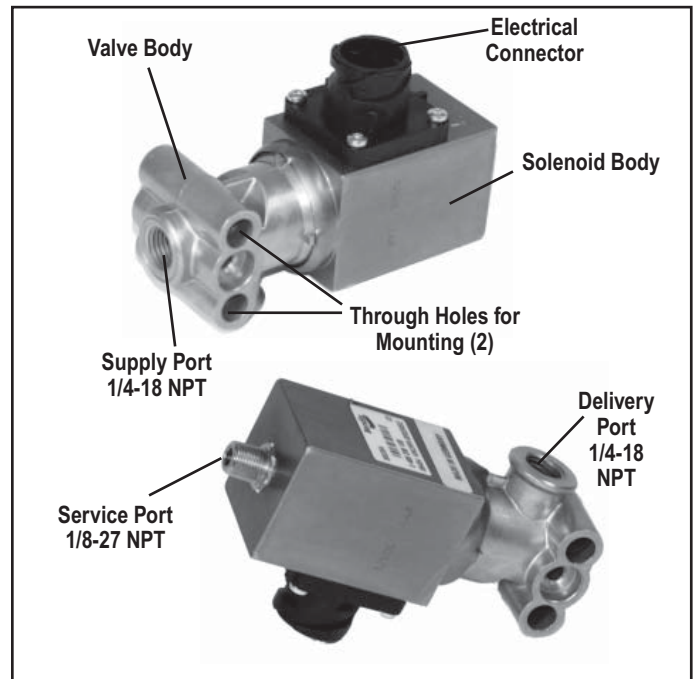

FIGURE 1 - THE BENDIX® AT-3™ SOLENOID VALVE
2. Identify and mark or label the electrical wiring harness and air hoses and their respective connections on the valve to aid the technician during reinstallation. For vehicles where the Service Port (see Figure 1) is open to the atmosphere, the valve body will be oriented so that this port will be pointing downwards (within 30 degrees of vertical). In these cases, be sure to note the valve orientation, and retain any snorkel tube present, for re-use with the new valve.